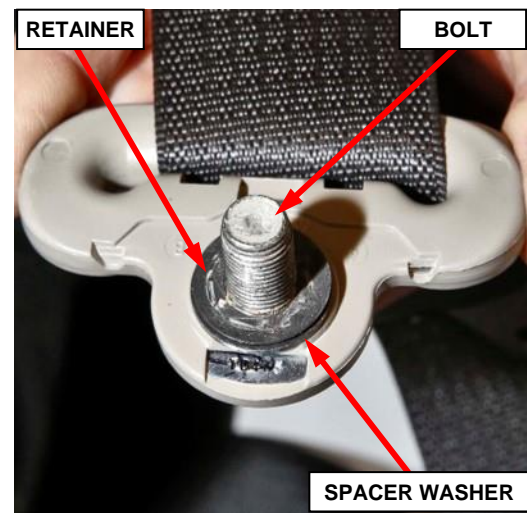

Figure 19 – Turning Loop Bolt
47. Remove and **DISCARD** the bolt retainer and the bolt from the seat belt turning loop, save the spacer washer for reuse (Figure 19).